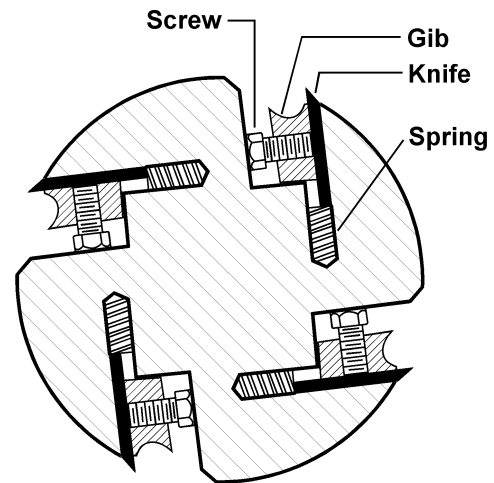

FIGURE 7
2. To remove knife, loosen the six hex head screws. See Figure 7.